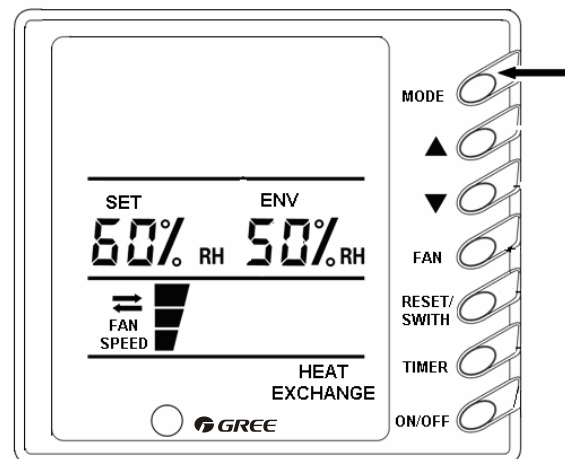

Fig.8
5) Running Mode Setting (Fig.8)